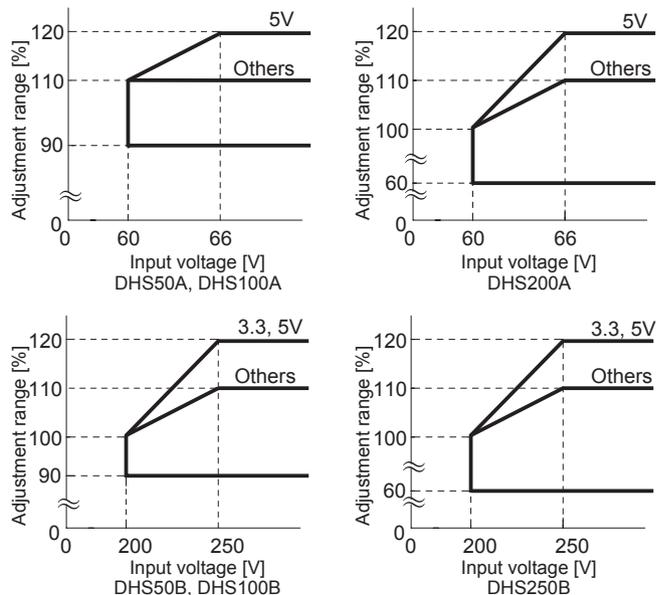

Fig. 3.4 Output Voltage Adjustment Range
■When the input voltage is 60 - 66VDC or 200 - 250VDC, the output voltage adjustment range becomes as shown in fig. 3.4.